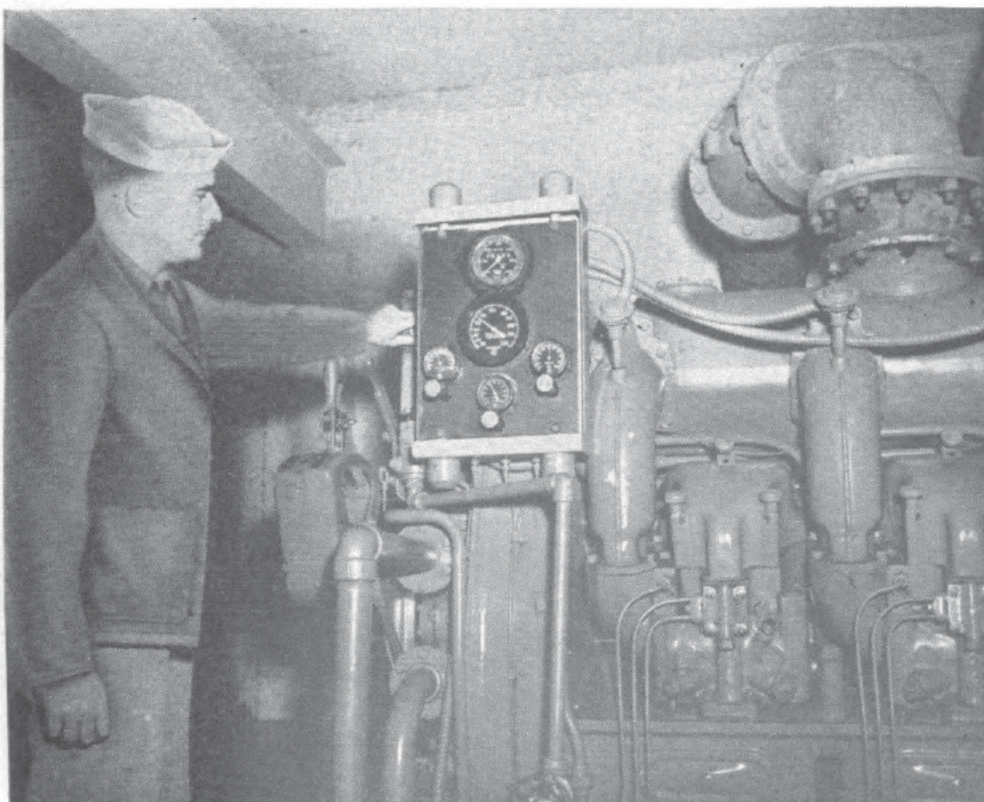

Figure 9-30.—Using the governor control knob to obtain rated engine speed.
5. Check the engine speed on the r. p. m. indicator gage. This particular plant must run at a rated speed of 600 r. p. m. to produce a 60-cycle voltage output. If the engine speed is not 600 r. p. m., turn the speed control knob until the dial needle on the r. p. m. gage points to 600 (fig. 9-30).